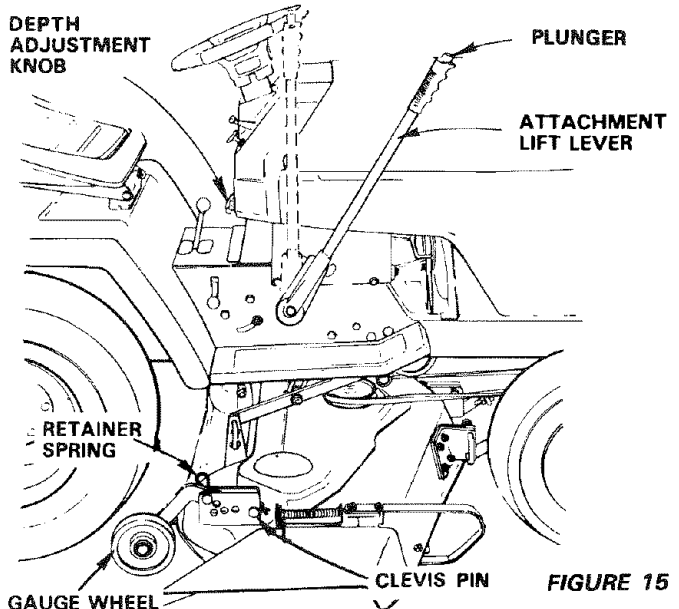

FIGURE 15
- a. To adjust gauge wheels (Fig. 15) lower attachment lift lever.